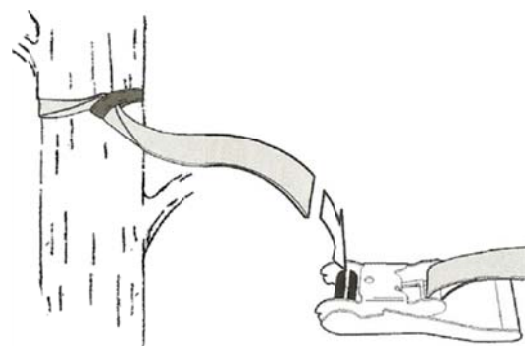

Figure 1.
3. Insert the flat end of the 2" webbing into the ratchet handle, pull webbing through until taut. Tighten slightly to hold. (fig. 1)